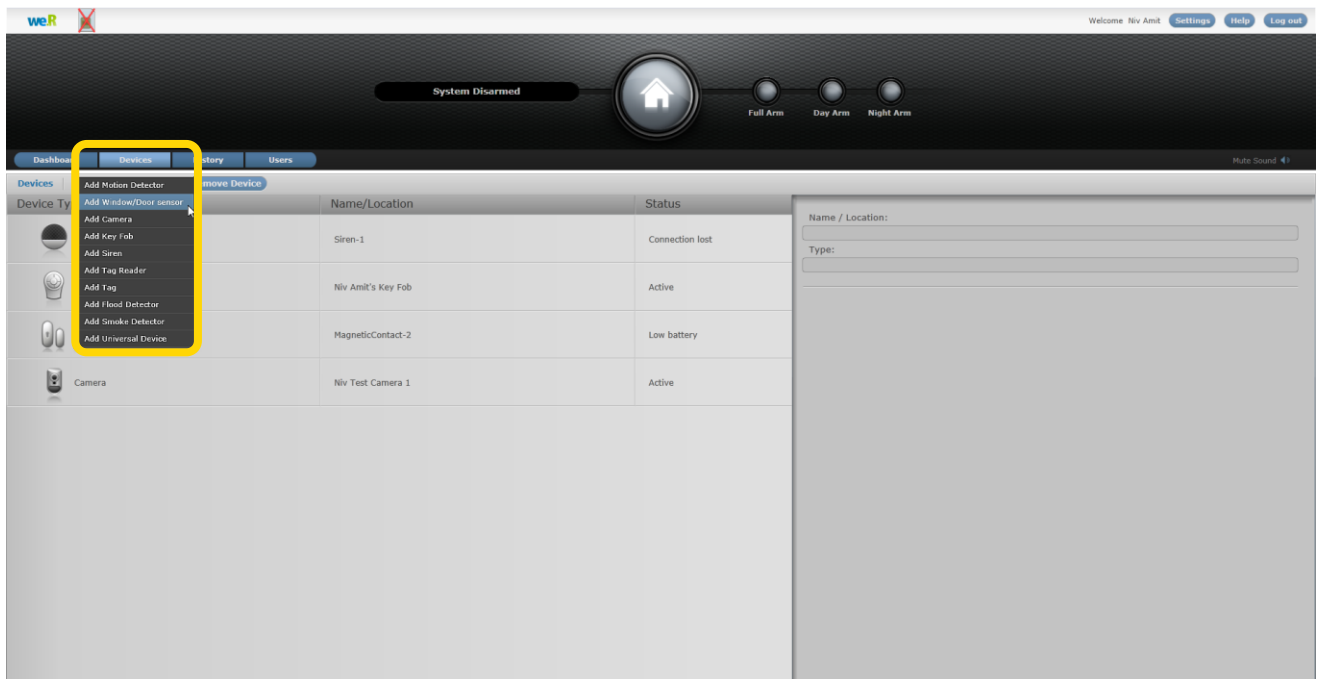

Figure 85: Add Magnetic Sensor Device Utilizing Web Application
5. Click over the **Add Window/Door Sensor** option of the menu as illustrated in Figure 85 above: